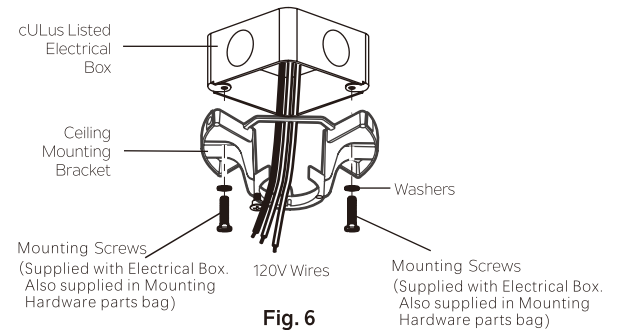

Fig. 6
**Step 3.** Pass the 120 volt supply wires from the ceiling outlet box through the center of the ceiling mounting bracket. (Fig. 6)
**Step 4.** Attach the ceiling mounting bracket to the outlet box using the screws and washers included with the outlet box. (Fig.6) (Also supplied in Mounting Hardware parts bag.)